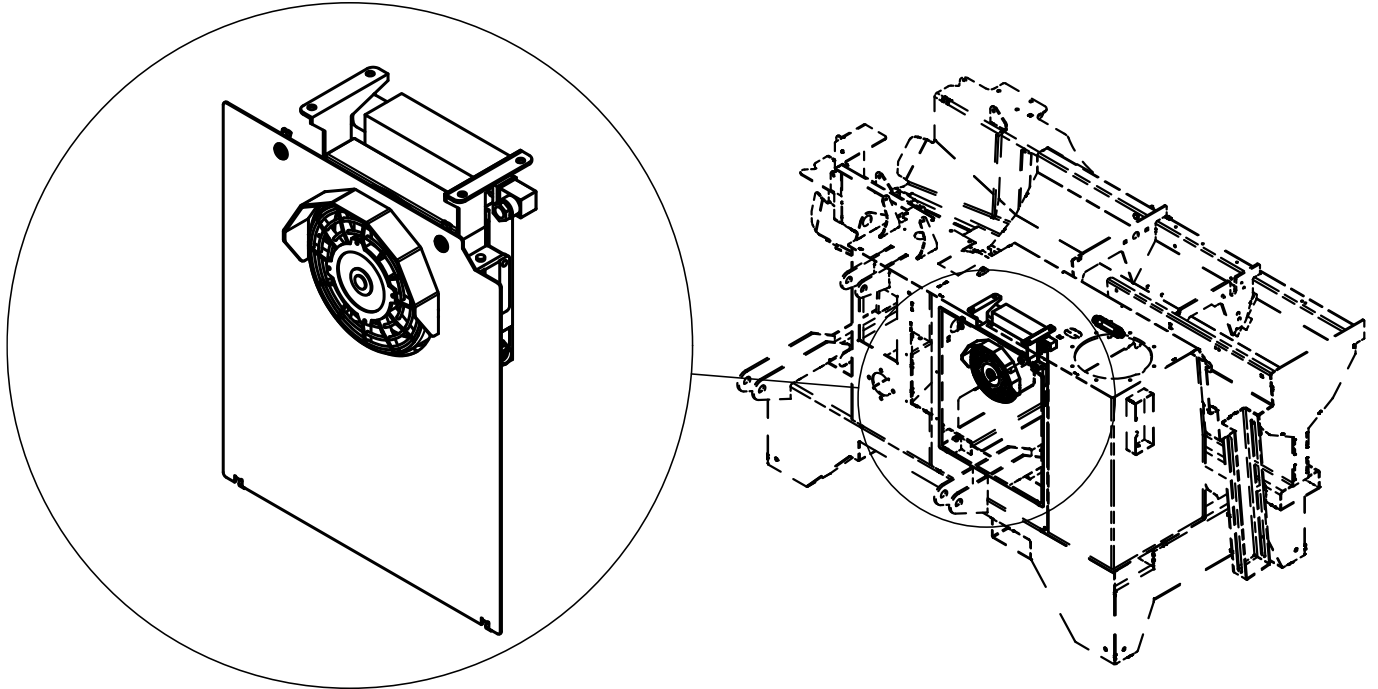

Figure 1
1. Remove cover and mount the cooler with 4 screws as shown in Figure 1.